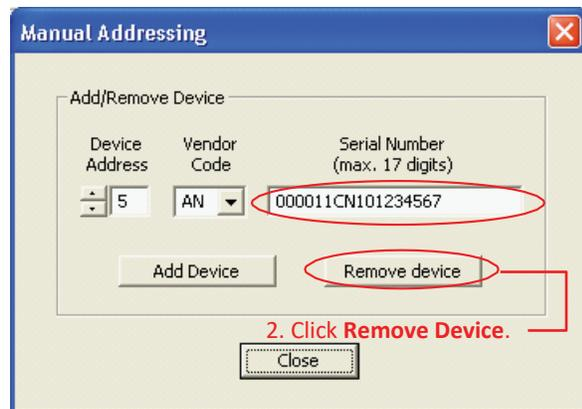

Figure 4-10. Removing Device.
2. From the **Manual Addressing** dialog box (Figure 4-10), note the device serial number or copy it to your clipboard.